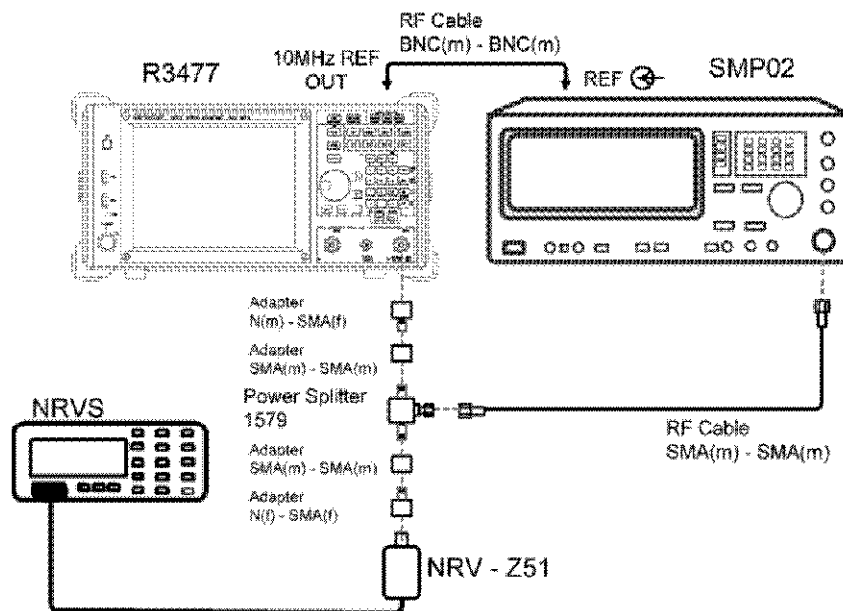

Figure 2-16 2nd Order Harmonic Distortion Test (without the Filter)
22. Change the connection of the instruments as shown in Figure 2-16.